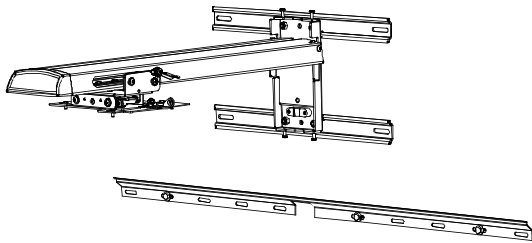

Figure 4
11. Install projector mount. Refer to the S520 Dual Stud Wall Mount (MSP-DCCUST2) manual. Do not install the (2) plastic covers for mount (Figure 4).